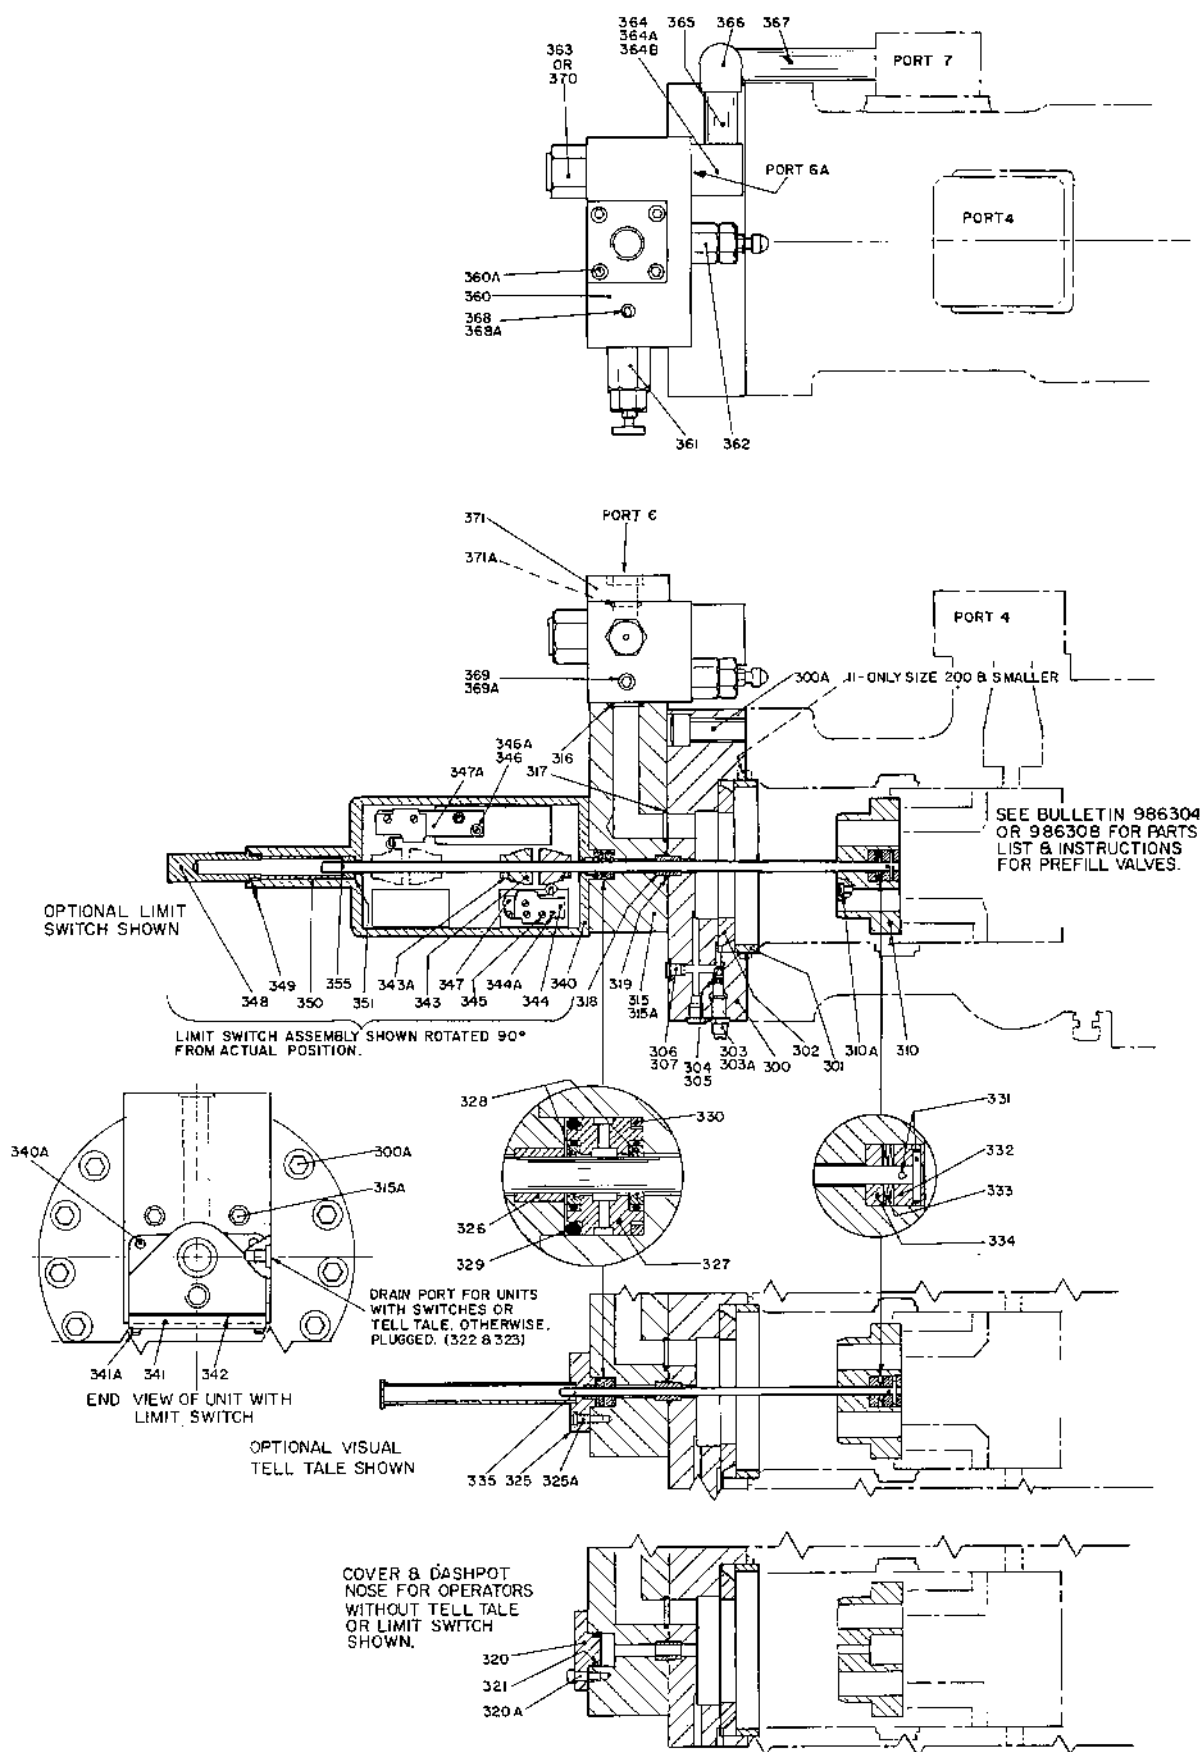

Figure 2. Parts Drawing. Modular Resistance Type Operator. DS-986331. (516666)
Refer to Figure 2. The principle parts of this operator are a dashpot nose (310) on the control piston, a floating dashpot mechanism (302) in the rear head (300), an adapter block (315) and the resistance operator module block (360) containing the adjustable resistance valve (361), the adjustable needle check valve (362), and an optional check valve (363). Optional limit switch assembly (340) or visual tell tale assembly (325) may also be mounted on the adapter block (315).
Refer to Figure 2. It will be advantageous to tag similar parts (particularly screws, plugs and o-rings) during disassembly to be certain they don't become confused with similar parts and to ensure they will be returned to original location.
**Avoid allowing cylinder prefill plunger (18) movement beyond normal closed position or piston rings will expand in Port 3 relief and lock plunger in body. Refer to Figure 2. Depending upon what part or parts are to be inspected, it may not be necessary to completely take apart all assemblies or disconnect piping.**